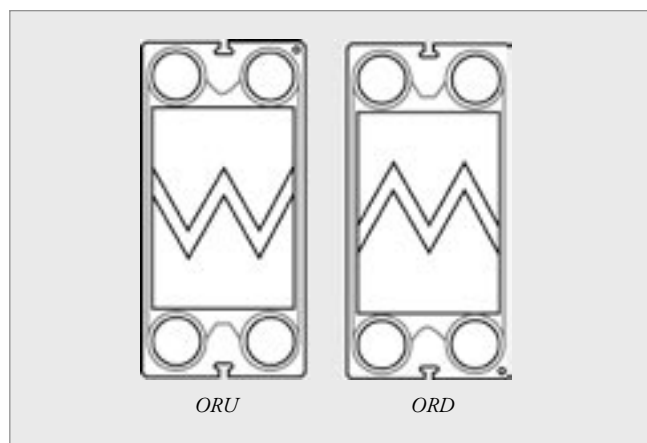

Figure 45
1. Attach half-A gasket to the start plate in the RORU orientation, as in Figure 46. Hang by the ORU orientation, as shown in Figure 45.
2. Attach B gaskets to even plates by the LOLU orientation. (See Figure 46.) Hang by the ORD orientation, so the “O” is in the lower right corner. (See Figure 45.) This is equivalent to Channel B.
3. Attach A gaskets to odd plates by the RORU orientation, as shown in Figure 46. Hang by the ORU orientation, as in Figure 45. This forms a Channel A.
4. Attach B gasket to end plate by the LOLU orientation, and attach half-A gasket to the backside of the end plate by the RORU orientation. (See Figure 46.) Hang by the ORD orientation with B gasket facing inside. (See Figure 45.) This completes the plate pack.